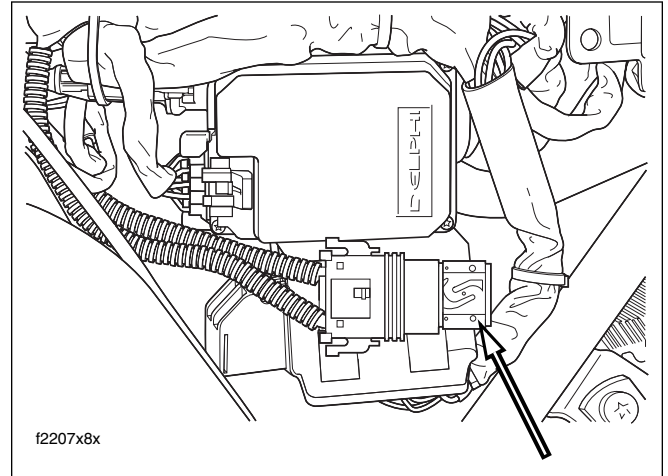

Figure 8-3. Remove Maxi-Fuse
4. Pull maxi-fuse from maxi-fuse holder. See Figure 8-3.
1. Insert maxi-fuse into maxi-fuse holder. See Figure 8-3.